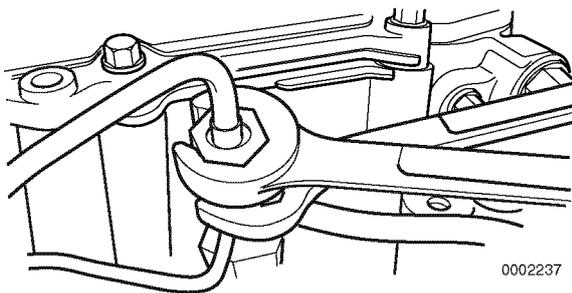

Figure 7-5
3. When tightening the fuel line nuts on the fuel injectors, use one wrench to hold the fuel return line nut and fuel return line from rotating. Use a second wrench to tighten the fuel line nuts (**Figure 7-5**). *See Special Torque Chart on page 7-6.*